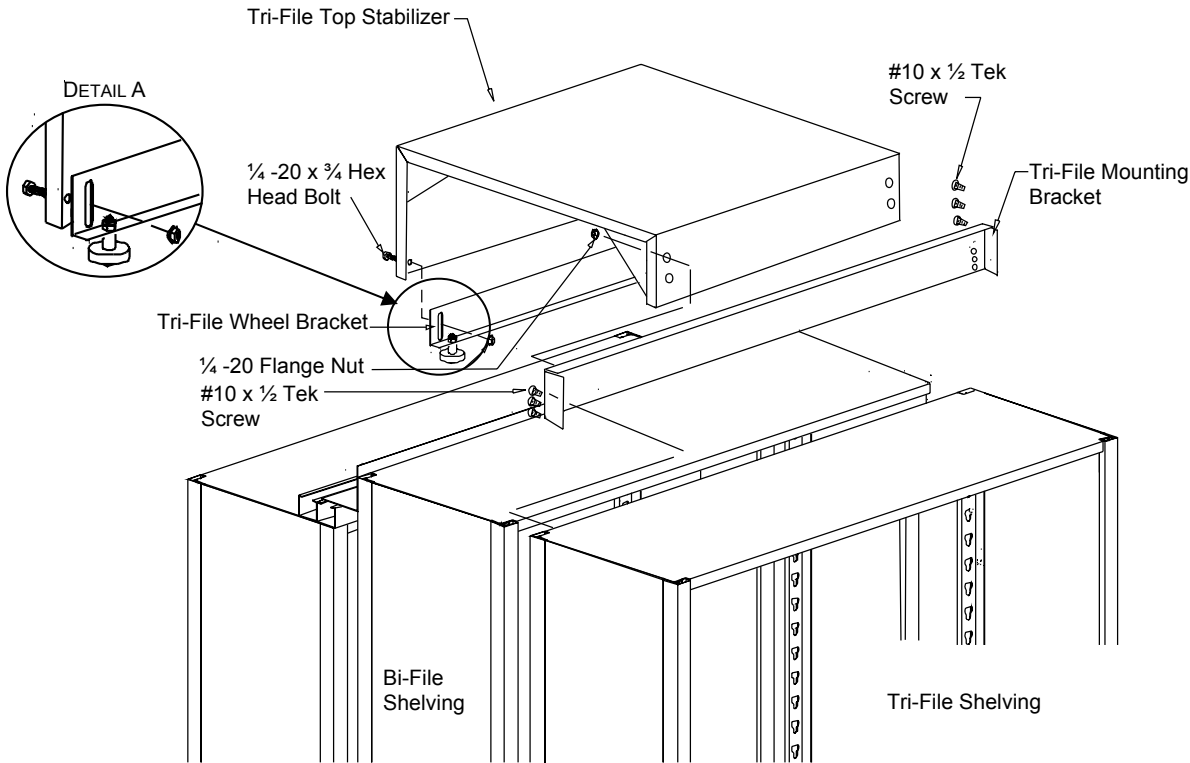

FIGURE 19
- STEP 1** Attach the Tri-File Mounting Bracket to the top back of the Tri-File Shelving, make sure mounting bracket is flush with the shelving on all sides and projecting 2 inches above the top shelf. Use six (6) #10 – 1/2 Tek screws to attach. **See Figure 19.**
- STEP 2** Attach the Tri-File Top Stabilizer to the Tri-File Mounting Bracket by placing the Tri-File Top Stabilizer onto the weld studs that are protruding out from the Tri-File Mounting Bracket. Secure with four (4) 1/4 -20 flange nuts. **See Figure 19.**
- STEP 3** Attach the Tri-File Wheel Bracket to the Tri-File Top Stabilizer make sure the Tri-File Wheel Bracket is behind the Tri-File Top Stabilizer. Use: two (2) 1/4 -20 x 3/4 hex head bolts and two (2) 1/4 -20 flange nuts. **See Figure 19, Detail A.** Make sure that the Stabilizer Wheels are in the middle of the Stationary Top Channel and are vertical. Firmly tighten all bolts after adjustment.